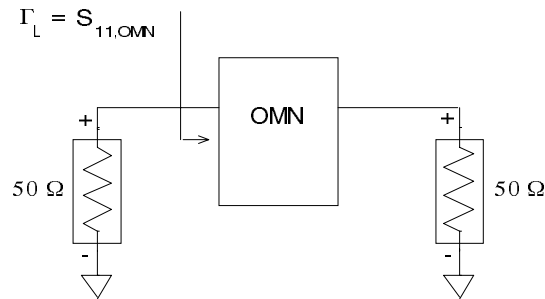

Figure 6: OMN test circuit
- Figure 6 shows the test circuit you need to construct in order to optimize the OMN.
- The circuit required to find Γ'_L versus the frequency is identical to the circuit in Figure 6. Hence, you have already collected the necessary data (S -parameters from 0.9 GHz to 1.1 GHz). The Γ'_L vs f data are stored in the DS_OMN dataset.